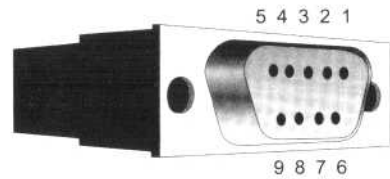

Figure 18: Db9 communication interface
(4). Outlook of DB9 is shown below figure 18.